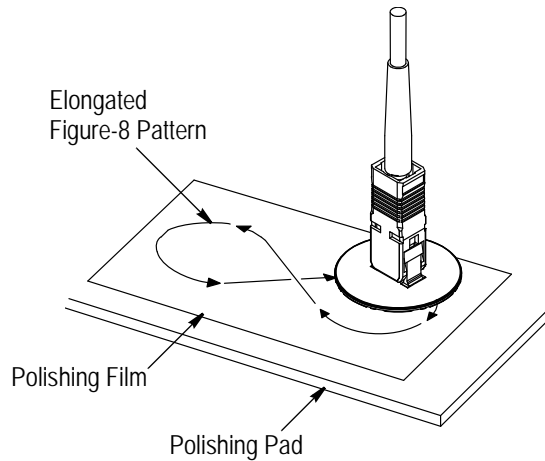

Figure 16
5. Holding the polishing bushing and connector, start polishing very lightly. Polish in an elongated figure-8 pattern. See Figure 16. Initially, a small amount of exposed fiber will be worn away. This is indicated by a narrow white trace on the film. As the exposed fiber wears away, the trace will widen and darken, indicating that adhesive/epoxy is being removed. At this point, a slight downward force may be applied while polishing. Check the tip often and stop polishing on the 5- μ m film when the adhesive/epoxy is medium red-pink and about one-third the ceramic ferrule diameter in size.